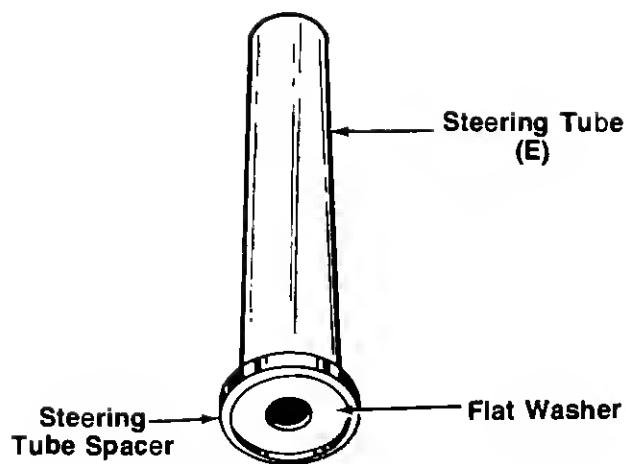

FIGURE 3.—Model 13504 Only
2. Press the large flat washer (1-5/8" diameter) into the open side of the black plastic steering tube spacer. See figure 3.
3. Press the steering tube spacer into one end of the chrome-plated steering tube (E). See figure 3. Make certain spacer is seated securely into tube.